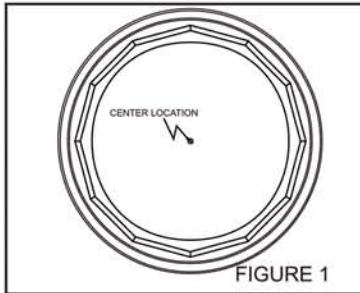

FIGURE 1
A. For manway flange or bung adaptor mounting nipples, locate center indicator in sump base for proper alignment of template. (See Figure 1) After holes are drilled, sand surrounding area with a 40 grit or coarser sandpaper or grinder. Clean sanded surface with Acetone to remove any debris, oils, mold waxes or release agents. Apply a generous bead of "Bostik 920" adhesive to the outside of the sump, all around of the hole pattern. Mount sump and tighten nuts in a star pattern to ensure an even seal. Backfill the void between the tank top and the bottom of the sump base with clean fill or pea rock.